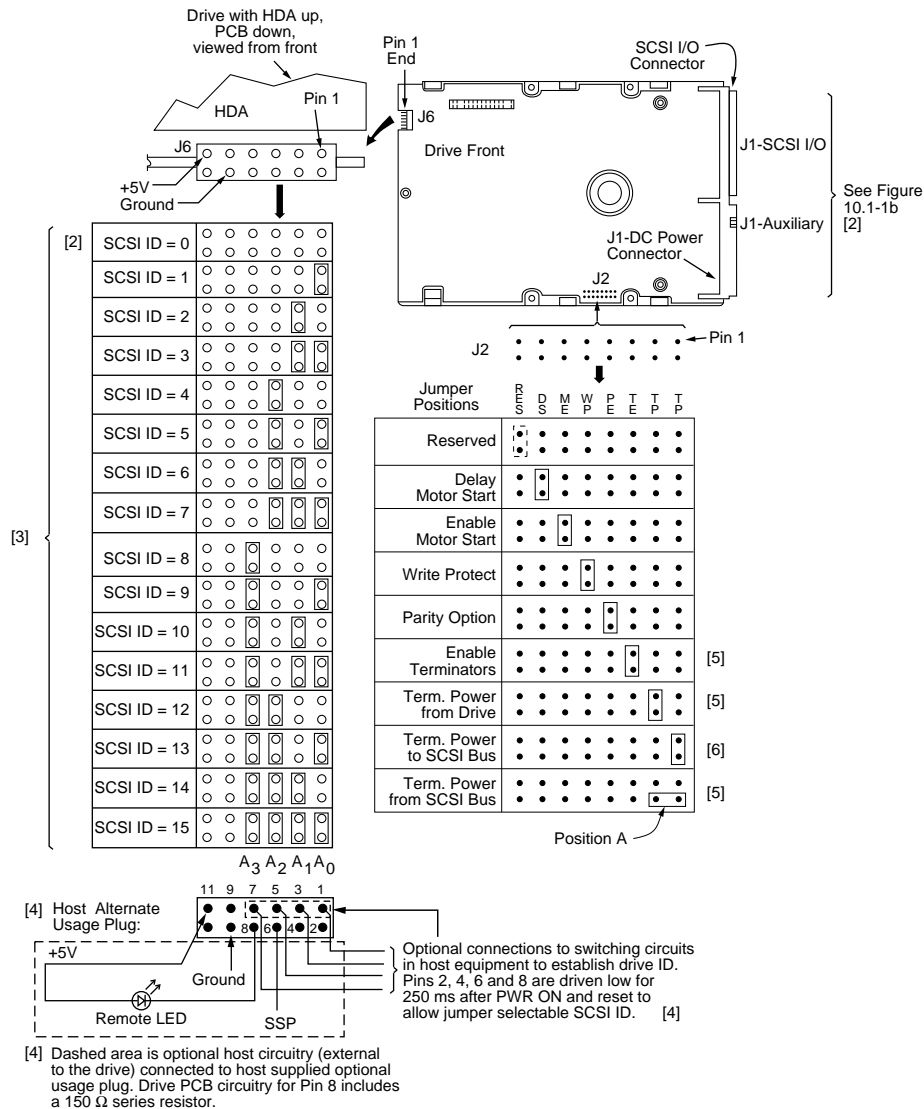
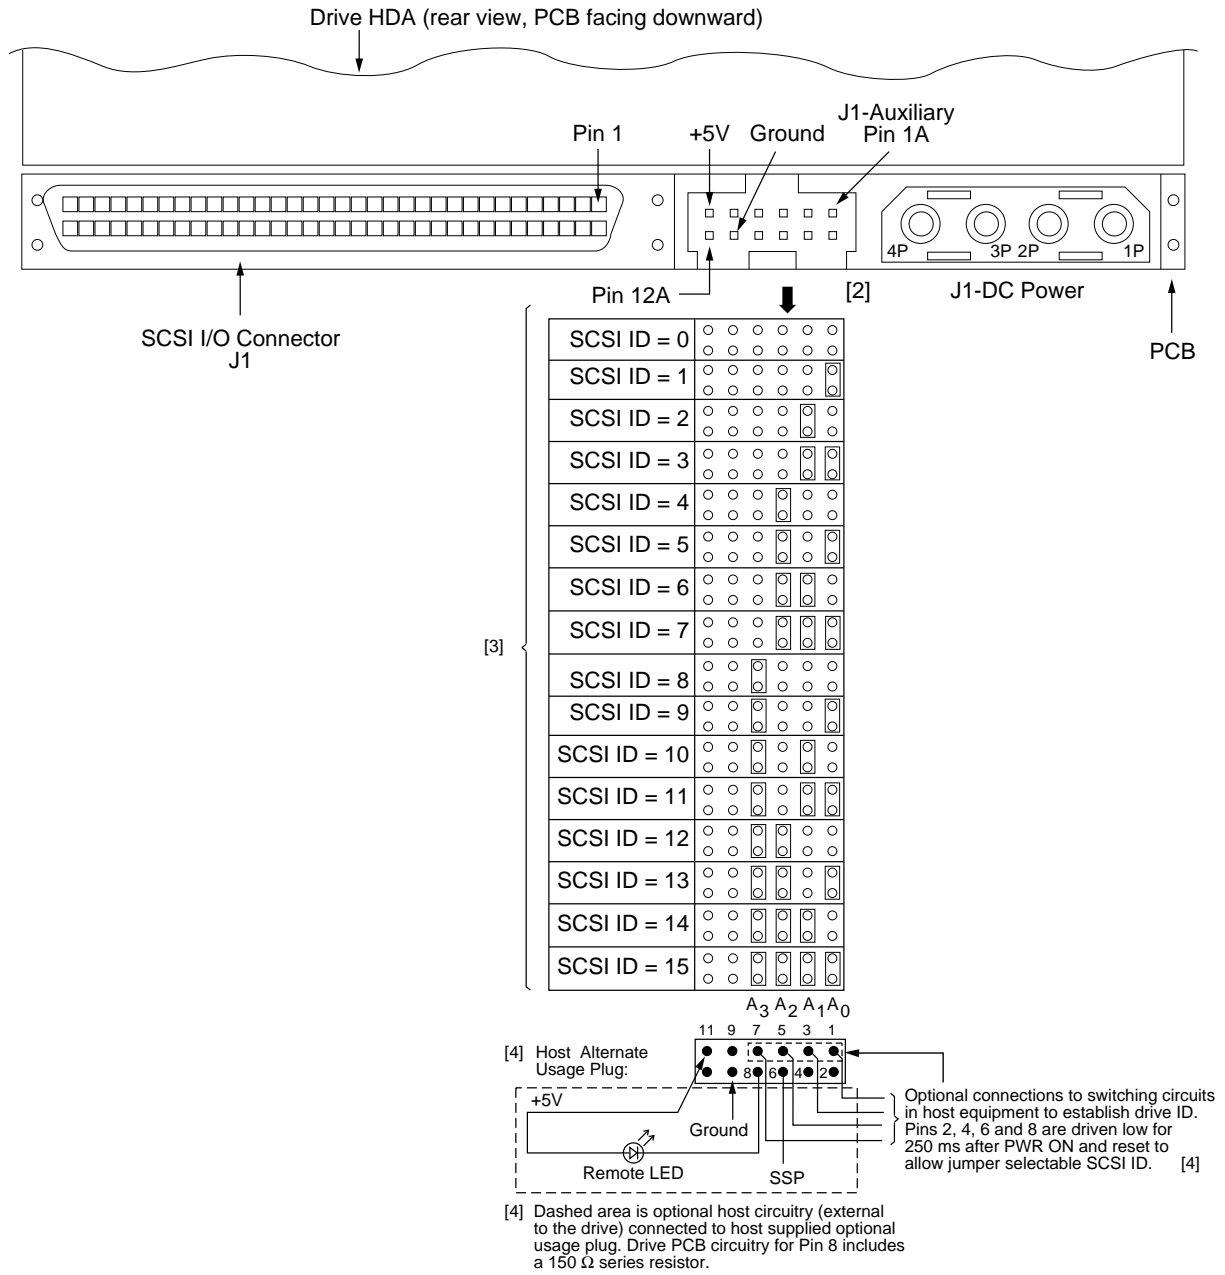
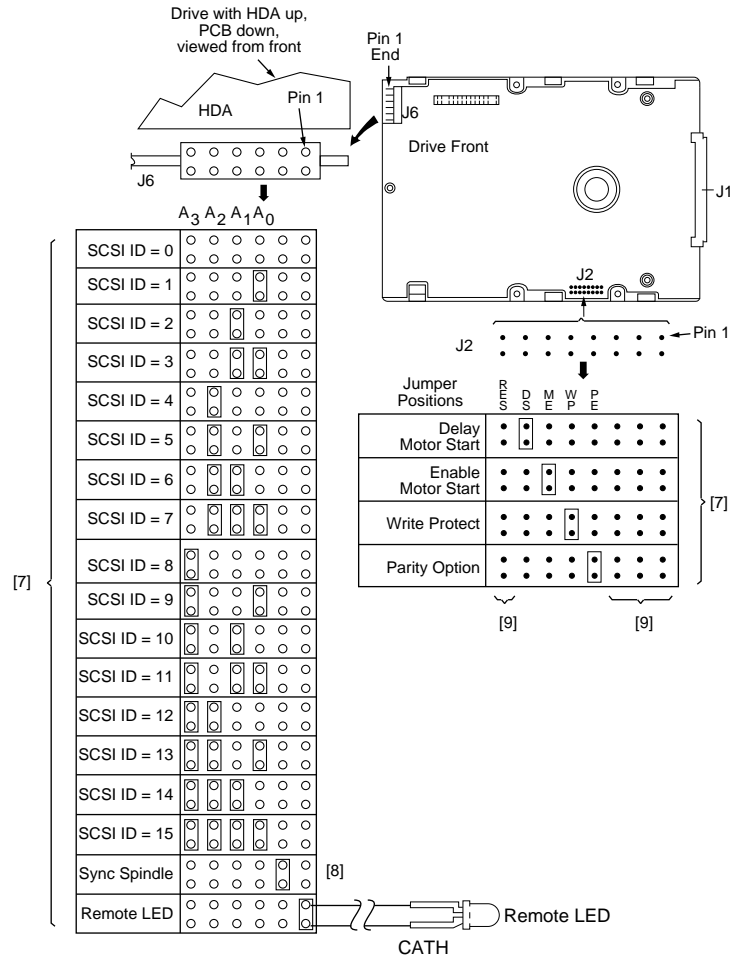

Figure 10.1-1a. "W/WD" models drive ID and option select header (Front and side header details)
Figure 10.1-1b. "W/WD" models drive ID and option select header J1-auxiliary (Rear header details)
Figure 10.1-1c. "WC" model drive ID and Option select header. (front and side header details)
Figure 10.1-1a shows a bottom view of the drive (PCB toward viewer) for the purpose of showing the drive ID and configuration option select jumper connectors for "W/WD" models. Figure 10.1-1c shows the jumper connectors for "WC" Model. Figure 10.1-1b shows a rear view of the "W/WD" models drive for the purpose of showing J1-auxiliary which has a duplicate pin configuration and purpose of J6 (Figure 10.1-1a) on the rear of the drive. Both J1-auxiliary and J6 have pins for selecting drive ID and for connecting the synchronized spindle cable and the remote LED cable. Only one or the other should be used, although using both at the same time would not damage the drive. The notes following the figures describe the functions of the various jumper positions on the three connectors J2, J1-auxiliary and J6. Suggested part number for the unusual J2 jumper is Molex 52747-0211 (Seagate P/N 77679052).
**Notes for Figure 10.1-1a and 10.1-1b:**
- [3] Either jumper plugs in one of the patterns shown or external circuitry can be used to establish Drive ID. The drive uses headers J6 or J1-auxiliary for drive ID determination only during a 250 ms initialization period following power-on or after a drive reset. During this initialization period, the drive control logic checks the logic state of pins 1, 3, 5 and 7. A ground on a pin indicates an asserted low state, while an open circuit, high impedance or +5 V indicates a negated high state. The drive user can install jumper plugs to connect pins 2, 4, 6 and 8 to pins 1, 3, 5 and 7, respectively, in the desired ID pattern. See figures 10.1-1a and 10.1-1b. The drive only connects ground to pins 2, 4, 6 and 8 during the 250 ms initialization period. The user may install a cable on J6 or J1-auxiliary in order to connect the drive ID pattern to pins 1, 3, 5 and 7 through some external switching circuit. The drive ID should be applied for at least the 250 ms period. During the remaining operational time of the drive, the drive does not poll pins 1, 3, 5 and 7 for drive ID, unless a reset occurs. See Note [4] for information on the use of pins 2, 4, 6 and 8 during non-initialization periods.